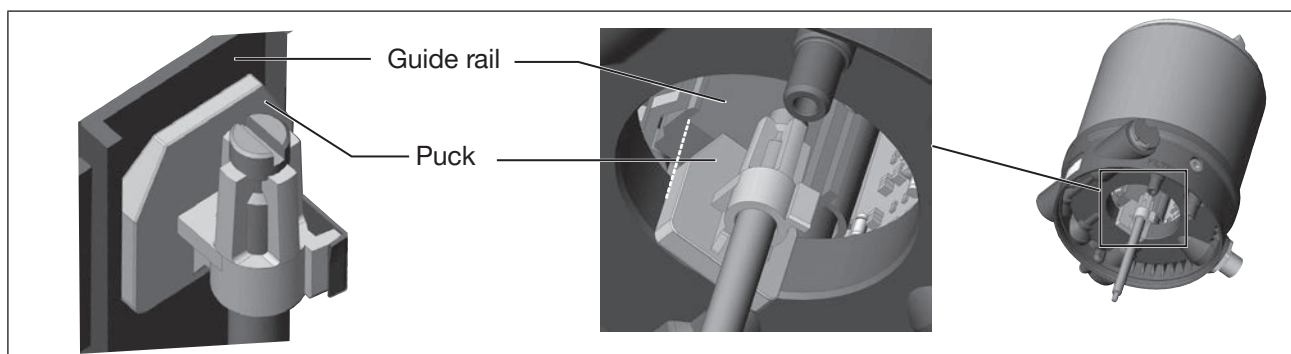

Figure 21: Aligning the puck
1. the puck can be inserted into the guide rail of the positioner (see "Figure 21") and